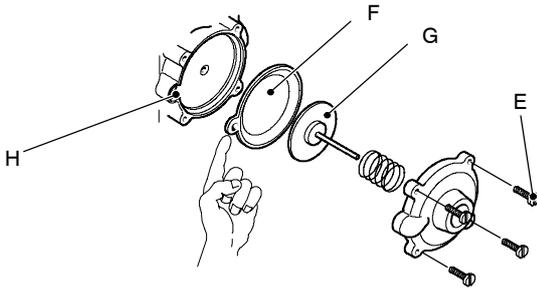

Fig. 5
- 3 Unscrew the four screws *E* (see Fig. 5) open the hydraulic operator and remove the membrane *F*.
When assembling the membrane, ensure that its concave side faces towards the actuator plate *G* and the reference indicated aligns with the seat *H* (see Fig. 5).